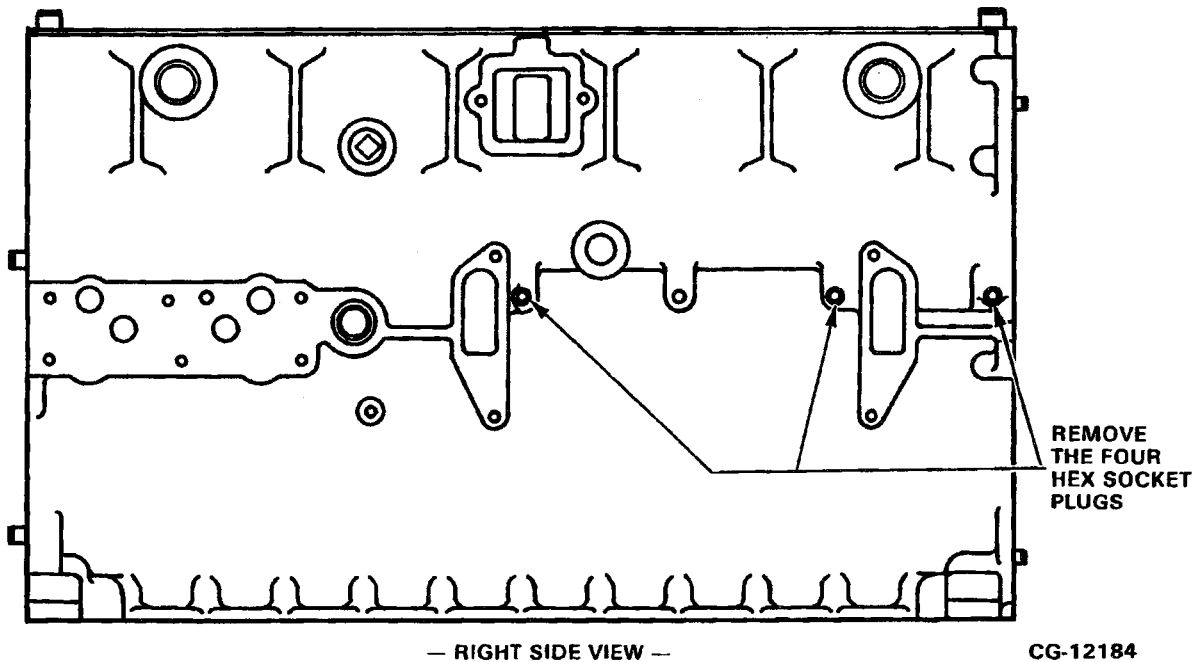

Figure 7.55. Cross Drilling Plug Locations
4. Remove the four hex-socket plugs located on the right side of the crankcase. Refer to **Figure 7.55**.